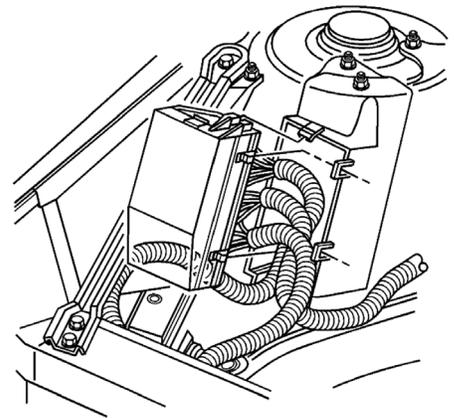

Fig. 4 Underhood junction block
11. Release tabs and pull junction block from housing, **Fig. 4**.
7. Position junction block to housing. Align tabs and press junction block into place to secure junction block, **Fig. 4**.